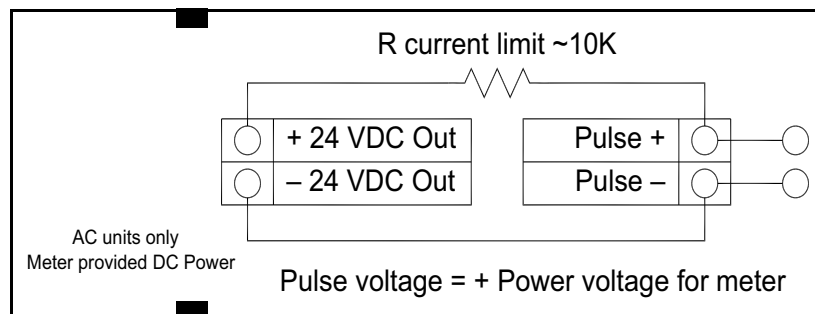

Figure 44: Isolated Pulse Output Using Provided Power Supply
- For AC powered meters only, use the internal 24 VDC power supply (see *Figure 44 on page 44*). Use this option if the voltage of the pulse output is the same as the voltage supplied to the circuit.